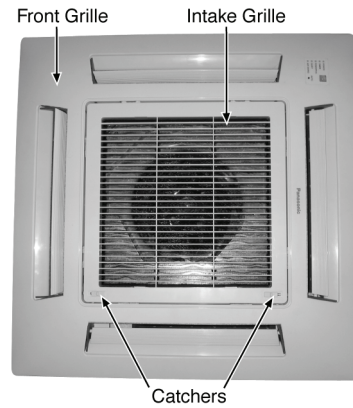

Fig. 1
1. Open the Intake Grille from the Front Grille by moving the catchers to center (Fig.1).